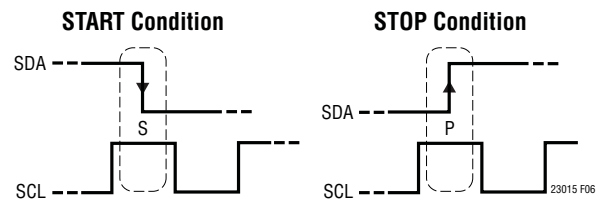

Figure 6. Timing Diagrams of START and STOP Conditions
Referring to Figure 6, a START (S) condition is generated by transitioning SDA from HIGH to LOW while SCL is HIGH. The bus is considered to be busy after the START condition. When the data transfer is finished, a STOP (P) condition is generated by transitioning SDA from LOW to HIGH while SCL is HIGH. The bus is free after a STOP condition is generated. START and STOP conditions are always generated by the master.